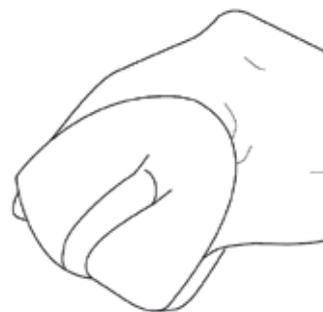

Figure 15: Squeeze Air Filter
6. Rinse in clean water by submerging the air filter element in fresh water and applying a slow squeezing action (see Figure 15).